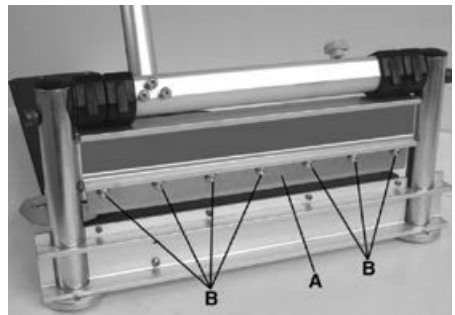

FIGURE 14
1. To remove the blade (Fig. 14-A), remove the seven allen head screws (Fig. 14-B) using the supplied hex key. Carefully remove the blade.